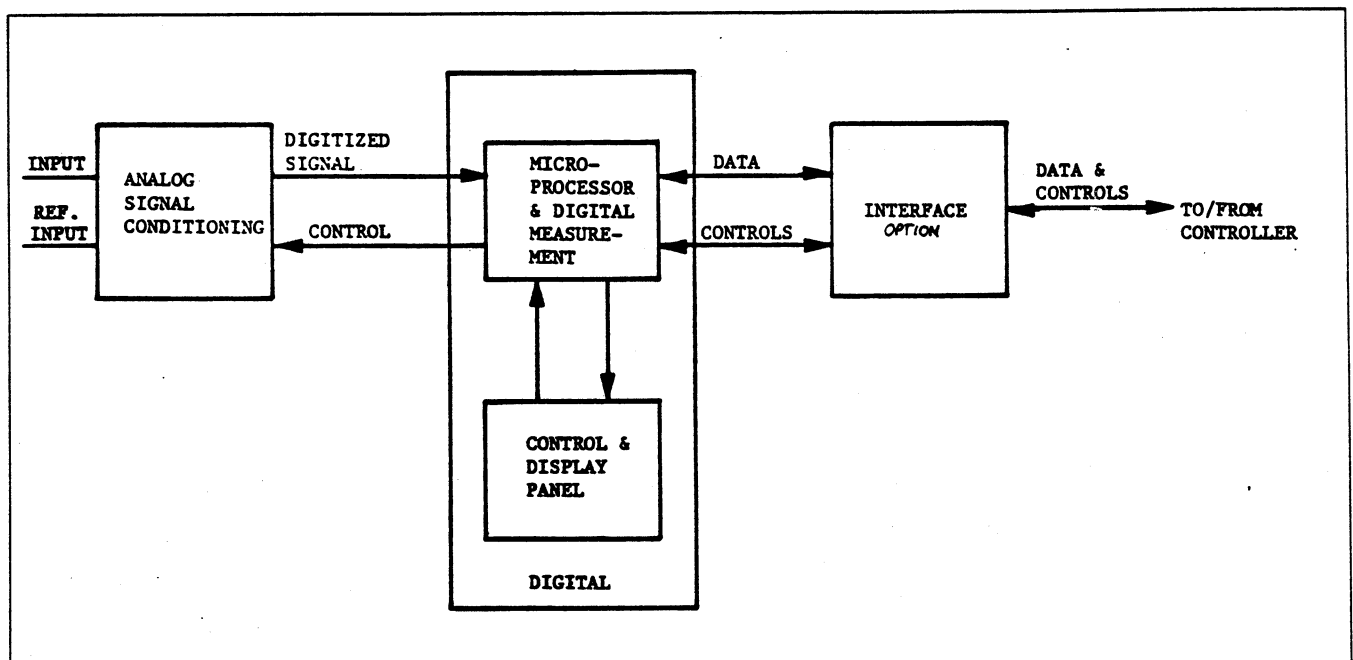

Figure 5.1 - Overall Block Diagram
5.1.1 This section presents the theory of operation for the Model 6000 Microprocessing Digital Multimeter (DMM). The operation is analyzed first in terms of a basic block diagram (Figure 5.1) and then operating modes and individual circuits are described. The drawings in this section are provided for use in conjunction with the descriptions and as supplements to the complete schematics located in Section 7.
5.2.1 As may be seen in Figure 5.1, the Model 6000 is composed of three major sections: Analog Signal Conditioner, Digital Control and Interface (optional). Input signals are conditioned and digitized in the Analog Signal Conditioner. Circuit timing and control signals are developed by the microprocessor based logic in the Digital Control section. The Digital Control section also provides keyboard decoding and display logic.
5.2.2 The Model 6000 may also be used as part of an instrumentation system. Remote control of the DMM is achieved through the use of one of the optional interface modules. As can be seen in Figure 5.1, the Interface acts as a bi-directional port for data and control signals generated by the Digital Control section and the external System Controller.